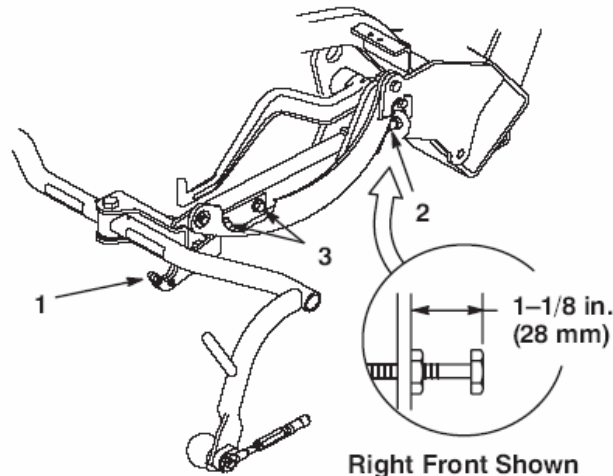

Figure 6
Check the transport height (Fig. 6) and adjust, if required, as follows:
2. Remove the carrier frame adjusting screw and jam nut (Fig. 6). Install the new screw and jam nut (included in kit) but do not tighten nut at this time.
3. Set the distance from the top of the carrier frame adjusting screw (Fig. 6) to the back of the carrier frame to 1-1/8 in. (28 mm).
4. Loosen the transport plate mounting screws (Fig. 6).
7. If the carrier frames are not at the same height, loosen the jam nut on the carrier frame adjusting screw (Fig. 6). Rotate the screw outward to raise and inward to lower. Tighten the jam nut after the proper height is obtained.